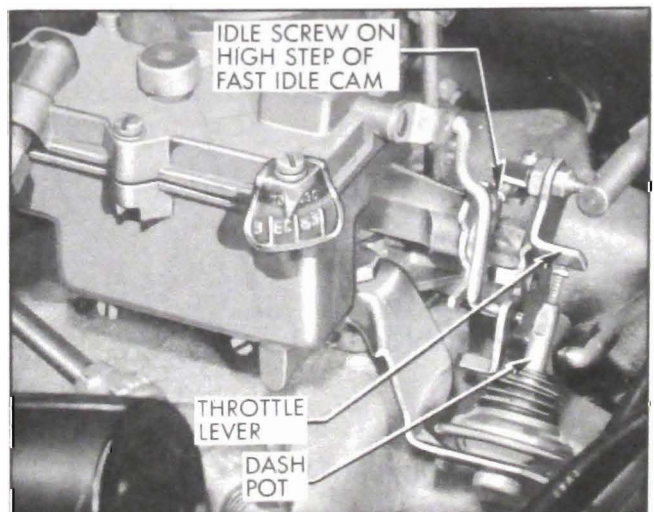

Figure 3-10—Dash Pot Adjustment
1. Open throttle to clear fast idle cam, rotate cam to extreme fast idle position, and allow throttle to close against fast idle cam. See Figure 3-10.